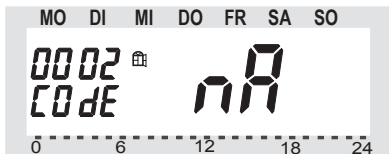

Figure 36
- Keep the '**FUNKTION**' button pressed until '**Code**' appears on the display. See figure 36 on the next page.